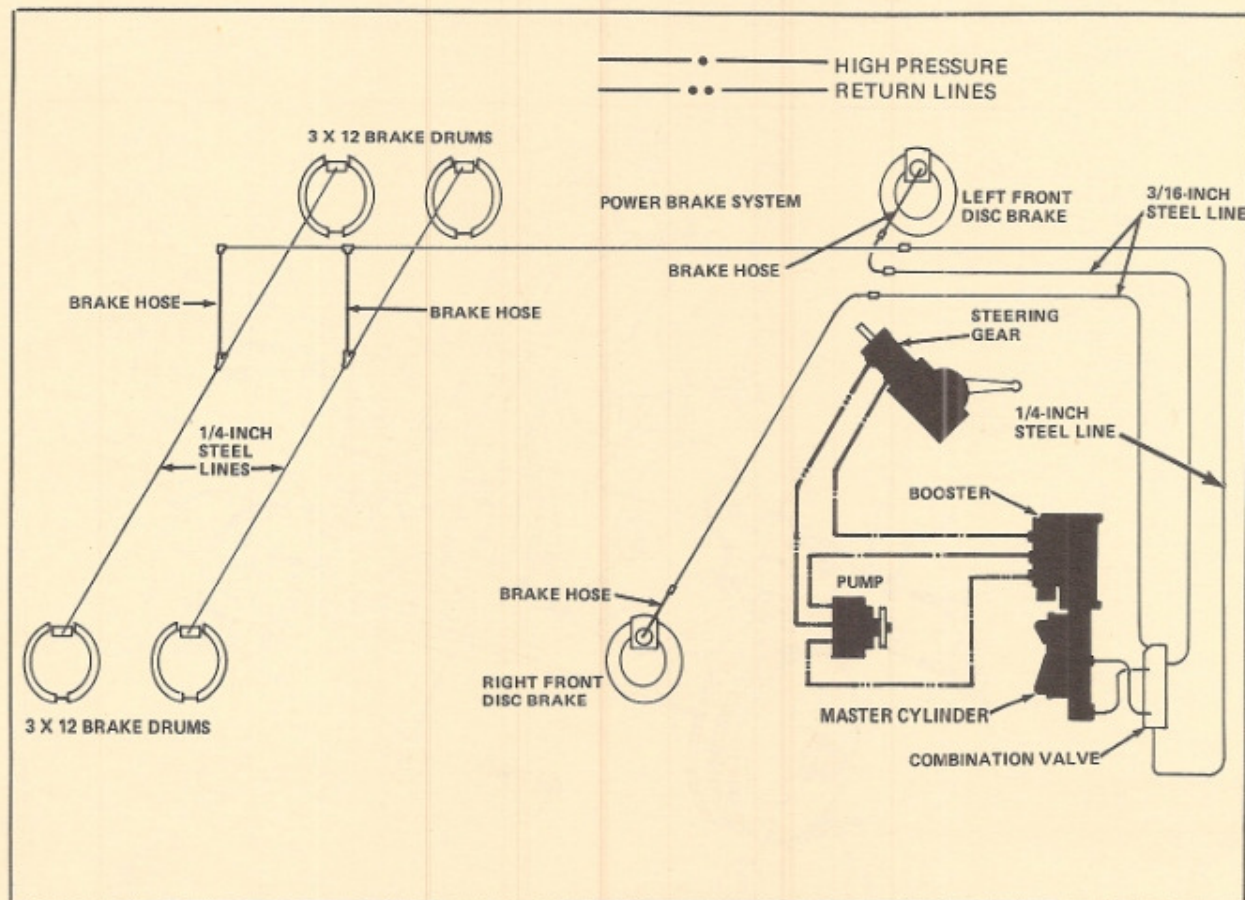

Figure 153 — Hydro-Boost System Schematic
**HYDRO-BOOST SYSTEM** — The brake system diagram for a Hydro-Boost installation is illustrated in figure 153. The Hydro-Boost is normally mounted on the front side of the firewall and used with a suspended brake pedal. The Hydro-Boost is either mounted directly to the firewall or to brackets attached to the firewall. In addition to mechanical connections to the pedal or input rod, four (4) hydraulic connections also need to be made. One connection is from the supply pump to the booster inlet port. A second connection delivers the hydraulic flow from the booster gear port to the steering gear. A third hose returns internal leakage and fluid from the boost cavity to the pump reservoir. The fourth connection returns fluid from the steering gear.